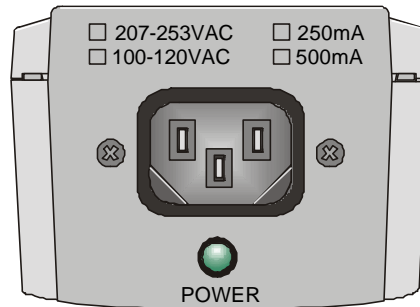

Figure 7. Indoor Unit Rear Panel
3. Connect the power cord to the unit's port connector, located on the rear panel shown in Figure 7. Connect the other end of the power cord to the AC mains.